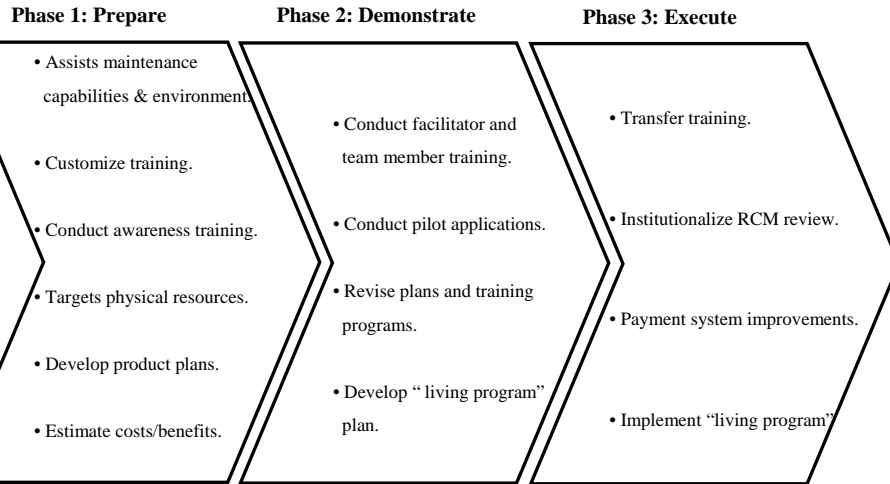

Figure 7-7: RCM Implementation Phases
- ❖ The major phases in this implementation approach and general tasks are illustrated in figure 7-7.